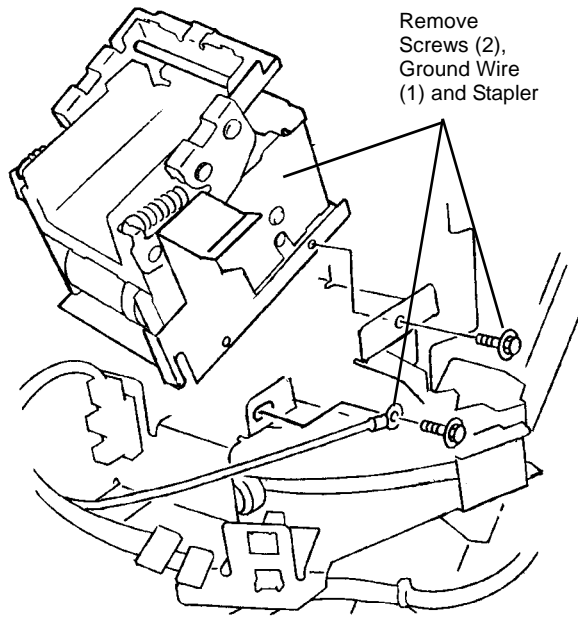

Figure 2 Removing Stapler Assembly
3. Remove the Stapler Assembly (Figure 2).